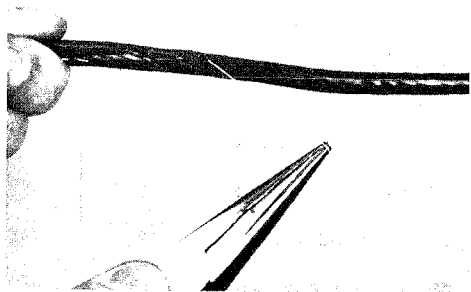

Fig. 2 — Removing Outer Jacket
- 4.05 Grasp the slitting cord firmly between the jaws of the long nose pliers. Pull the cord with the long nose pliers and slit the jacket for approximately 5 inches from the end of the wire as shown in Fig. 2. Trim off the slit portion of the jacket using the splicer's scissors.